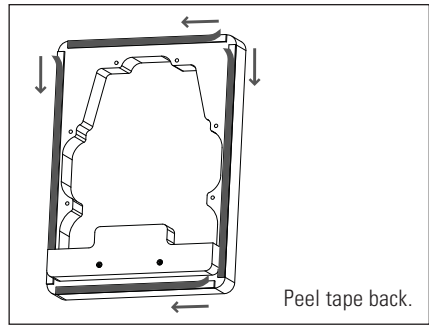

Fig. 5b
- b) Remove double-sided tape (Fig. 5b).